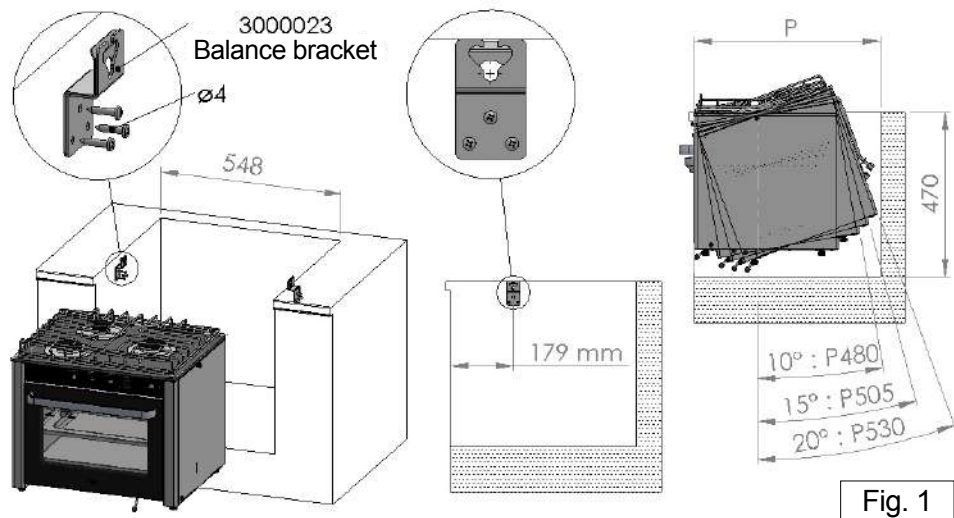

Fig. 1
- the installation compartment that houses the oven, must have the dimensions shown in **Fig. 1**. Depth **P** of the **compartment** varies with the degree of tilting that it is wished to be planned;
- fix the hooking brackets with $\varnothing 4$ screws by placing them according to the dimensions indicated in **Fig. 1**;